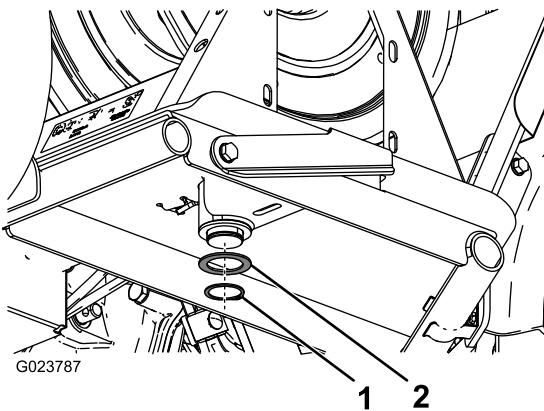

Figure 10
4. On the underside of the hose reel frame, attach the thrust washer and snap ring to the post on the swivel plate (Figure 10).